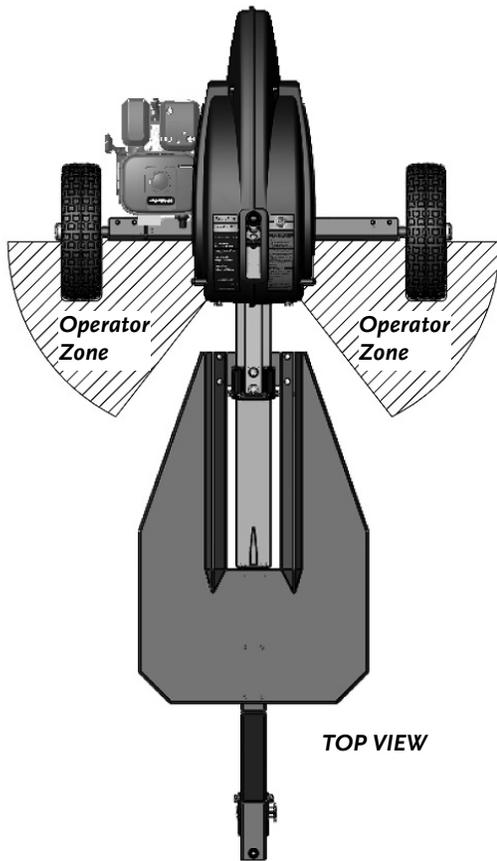

Figure 18
- When operating the Log Splitter, make sure you are standing in the safe operating area (OPERATOR ZONE) as shown in **Figure 18**. You must stay in the safe operating area at all times when the ram is in motion (whether extending or retracting). Never place any part of your body into a position that causes an unsafe operating condition.